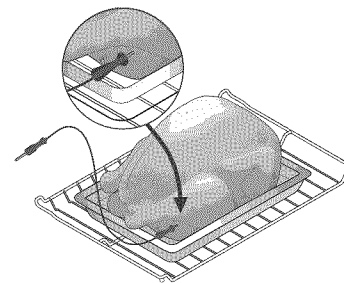

Figure 14: Probe in thickest part of thigh
- For whole poultry or turkey, fully insert the probe sensor into the thickest part of inner thigh, just below the leg (Figure 14).